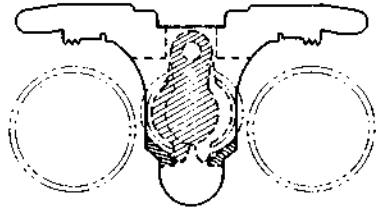

Fig. 5-5
- The slide brake at bottom position (Refer to Fig. 5-5)